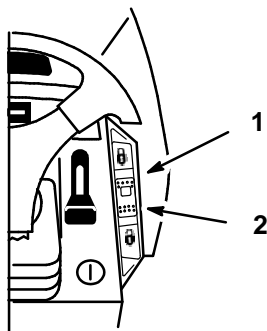

Figure 13
The cruise control is optional on some models. A 3 position: Lock-Set (spring loaded), On and Off-Unlock dash switch (Fig. 13) controls the engagement. Cruise control maintains the traction control position without foot pressure. Cruise control is intended for operation in the forward direction only. Do not use cruise control in reverse.
1. Begin driving tractor: Refer to Driving Forward or Backward, Page 13. While holding your foot steady on the traction control, push the cruise control switch (Fig. 13) to the “LOCK”-“SET” position.
1. While holding your foot steady on the traction control, move the cruise control switch (Fig. 13) to the “UNLOCK”-“OFF” position.